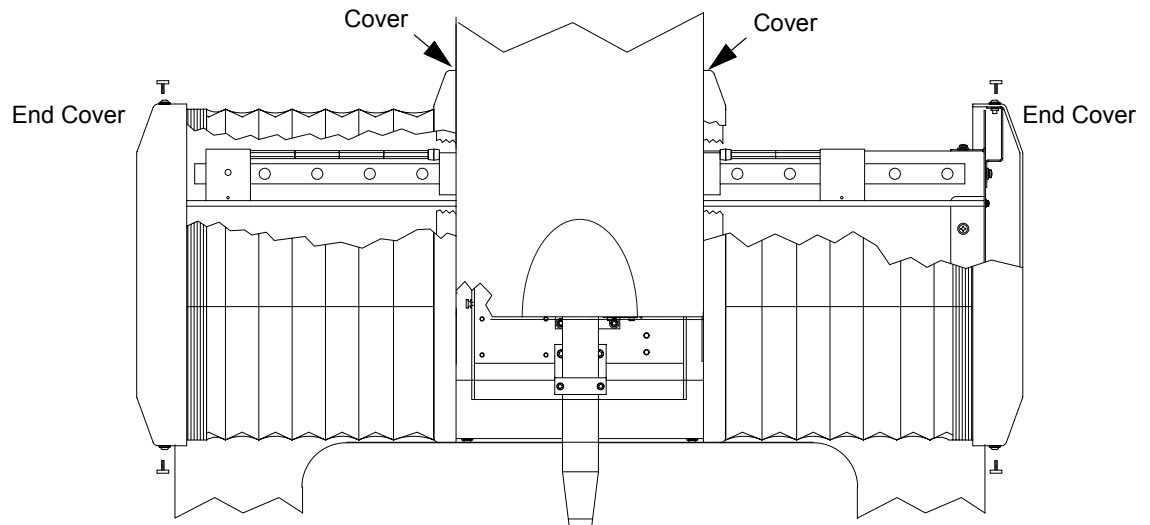

Figure 6-2 Detaching the X-Axis Bellows
1. Loosen the four button-head screws (two on the top and two on the bottom) that hold the End Cover in place; see Figure 6-2.
2. Loosen the five button-head screws (three in front and two on the top) that hold the Cover in place; see Figure 6-2.